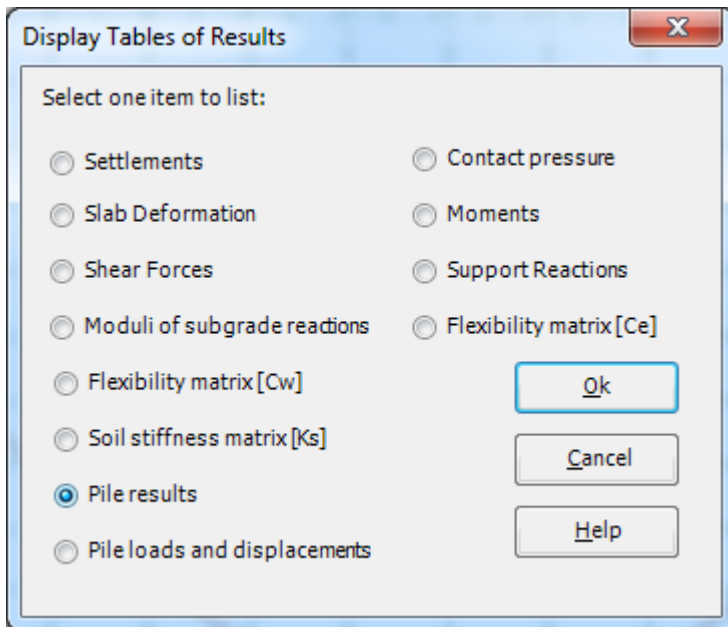

Figure 12.39 "Display tables of results" option box
- Choose "Display tables of results" command from "List" menu in "Result" Tab. The following option box in Figure 12.39 appears